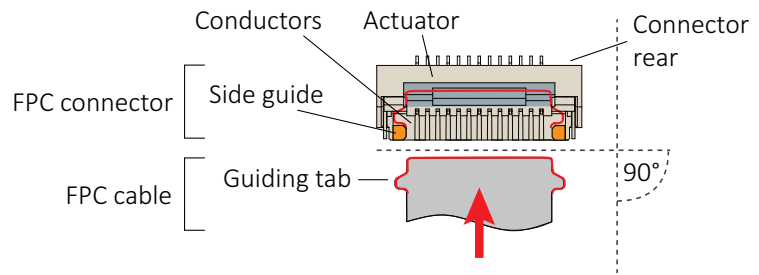
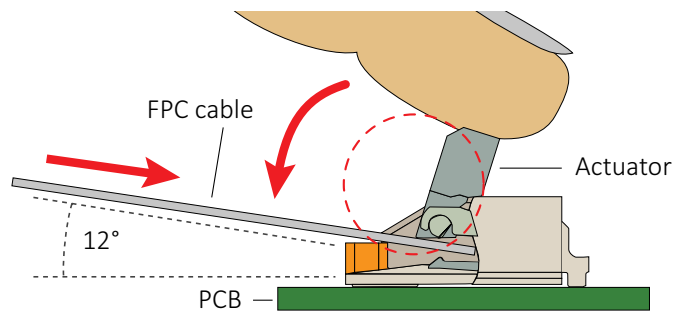

Figure 15: FPC cable and FPC connector
Figure 16: Engaging the FPC cable in the FPC connector
2. **Ensuring proper cable orientation between devices to be connected**, take the FPC cable with conductors facing the FPC connector conductors (see Figure 15 on page 40).
At a horizontal angle of 90° to the connector's rear (see Figure 15) and at a vertical angle of 12° to the PCB (see Figure 16), slowly insert the FPC cable into the actuator...
4. ...until cable guiding tabs are caught between connector rear and side guides (see Figure 15). Pull the cable slightly to ensure guiding tabs are properly engaged.
5. Holding the FPC cable in position, flap down the actuator to closed position (see Figure 16).